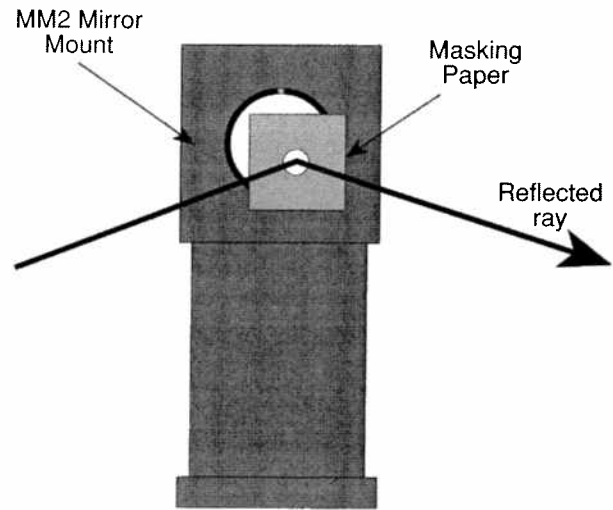

Fig. 5. – Beam alignment.
- Beam alignment: This step is to ensure coarse alignment of the input beam with respect to the SuperCavity. Align the input beam from the laser so it is reflected off the two unmasked areas on the two mirrors, as shown in Fig. 5. Use the little strip of sensor card to locate the beam.
- Coarse alignment of beam: Complete the alignment shown in Fig.5. Check the beam propagation after reflecting off the second mirror. It should be traveling roughly parallel to the edge of the breadboard and to the horizontal plane. Adjust the two mirrors as necessary to correct the alignment of the ray.